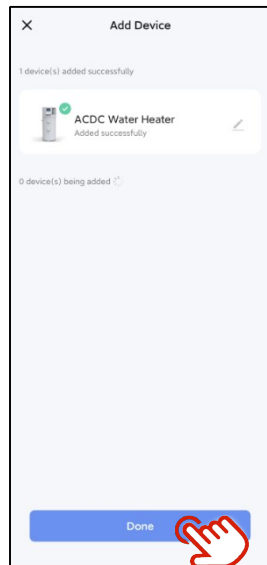

Fig.16 Device added successfully
9. After the network configuration is complete, click <Done> at the bottom of the page (Fig.16). The device is added successfully;